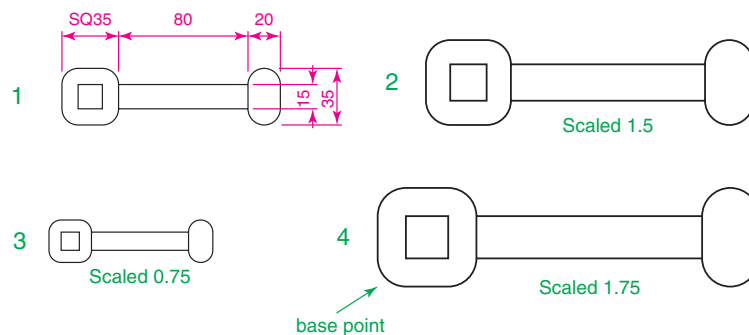

Fig. 5.29 Examples – Scale
Examples – Scale (Fig. 5.29)
- Using the **Rectangle** and **Polyline** tools, construct drawing **1** of Fig. 5.29. The **Rectangle** fillets are R10. The line width of all parts is **1**. Copy the drawing 3 times to give drawings **2**, **3** and **4**.
The results are shown in Fig. 5.29.